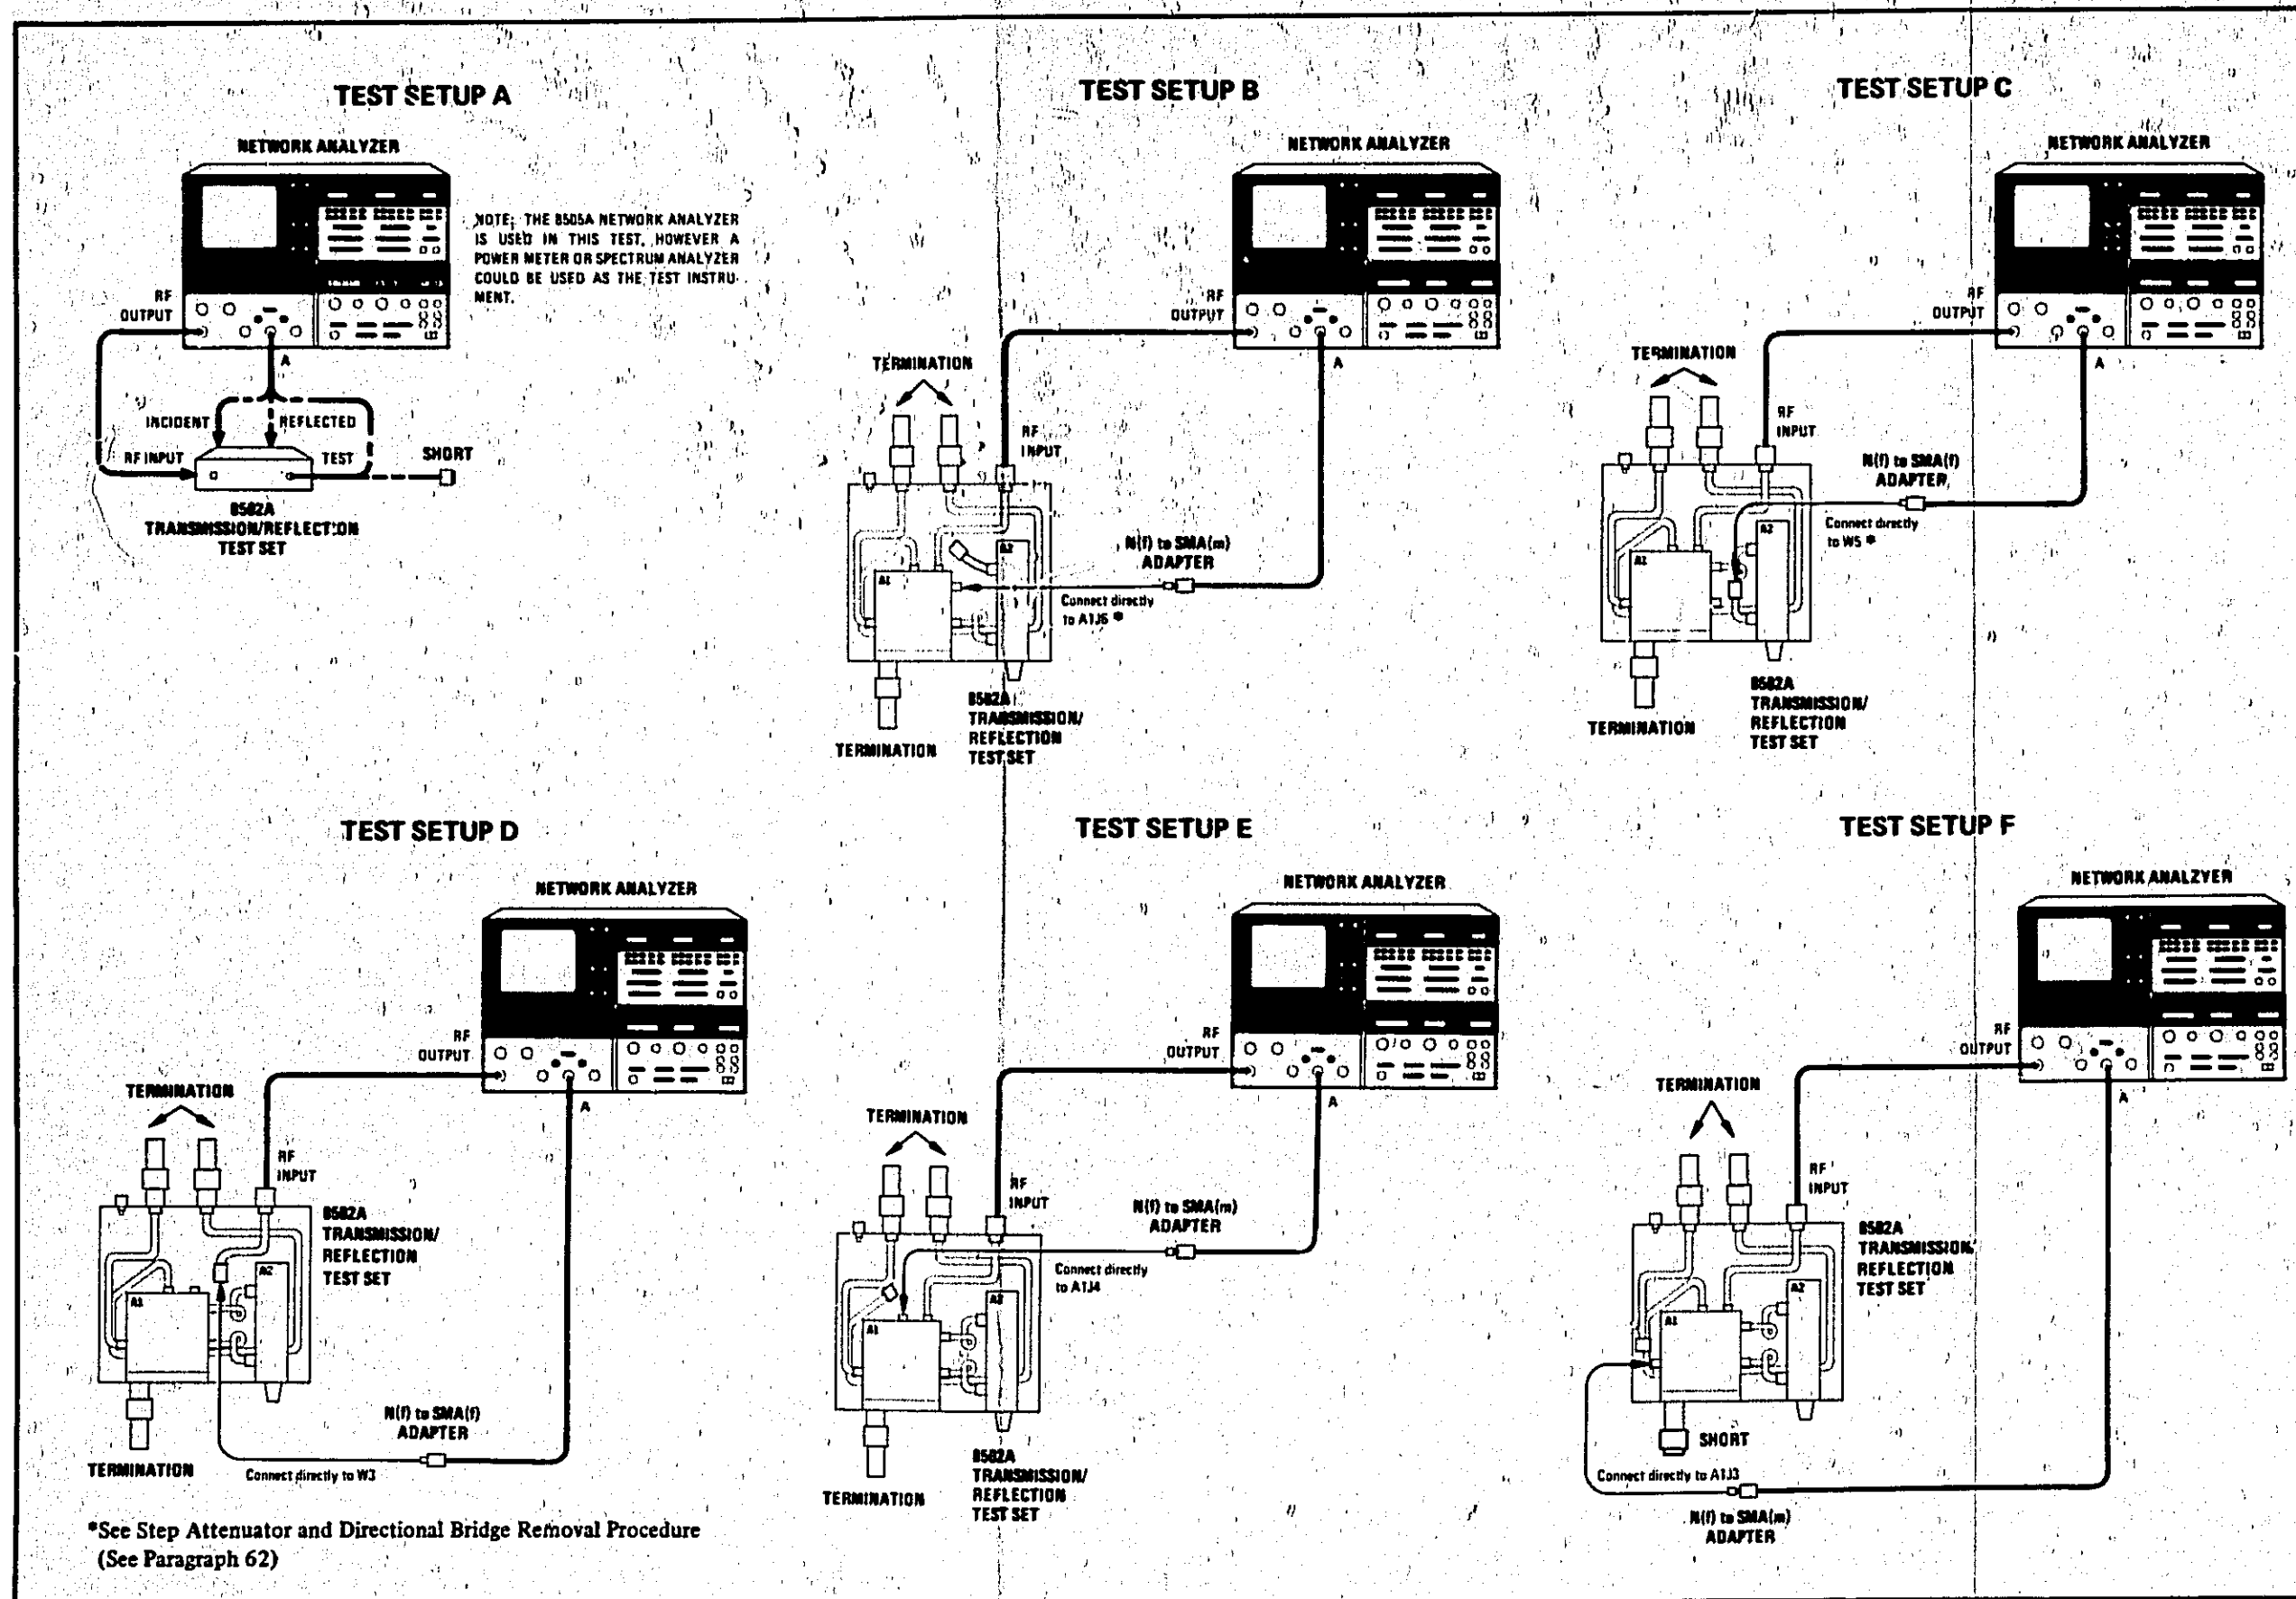

Figure 26. 8502A Transmission/Reflection Test Set Troubleshooting Procedure (1 of 2)
72. A troubleshooting flow diagram (Figure 26) provides a step-by-step procedure to isolate the cause of a malfunction and identify the defective assembly or component. An equivalent circuit diagram (Figure 27) and major assemblies locator